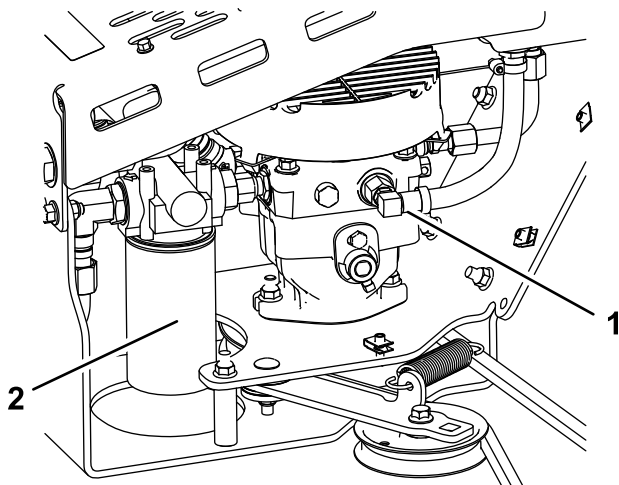

Figure 11
3. Place a drain pan under the 90-degree fitting (Figure 11).
10. Remove the hydraulic filter (Figure 11).
12. Ensure that the filter-mounting area is clean and screw the filter on until the gasket contacts the mounting plate; then tighten the filter an additional 1/10 to 1/4 turn (Figure 11).